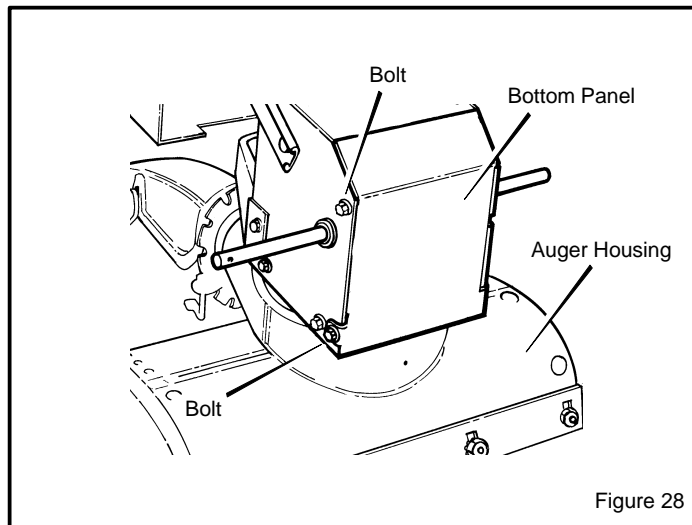

Figure 28
2. Loosen the **bolts** on each side of the **bottom panel** (see Figure 28).
13. Install the **bottom panel** (see Figure 28).